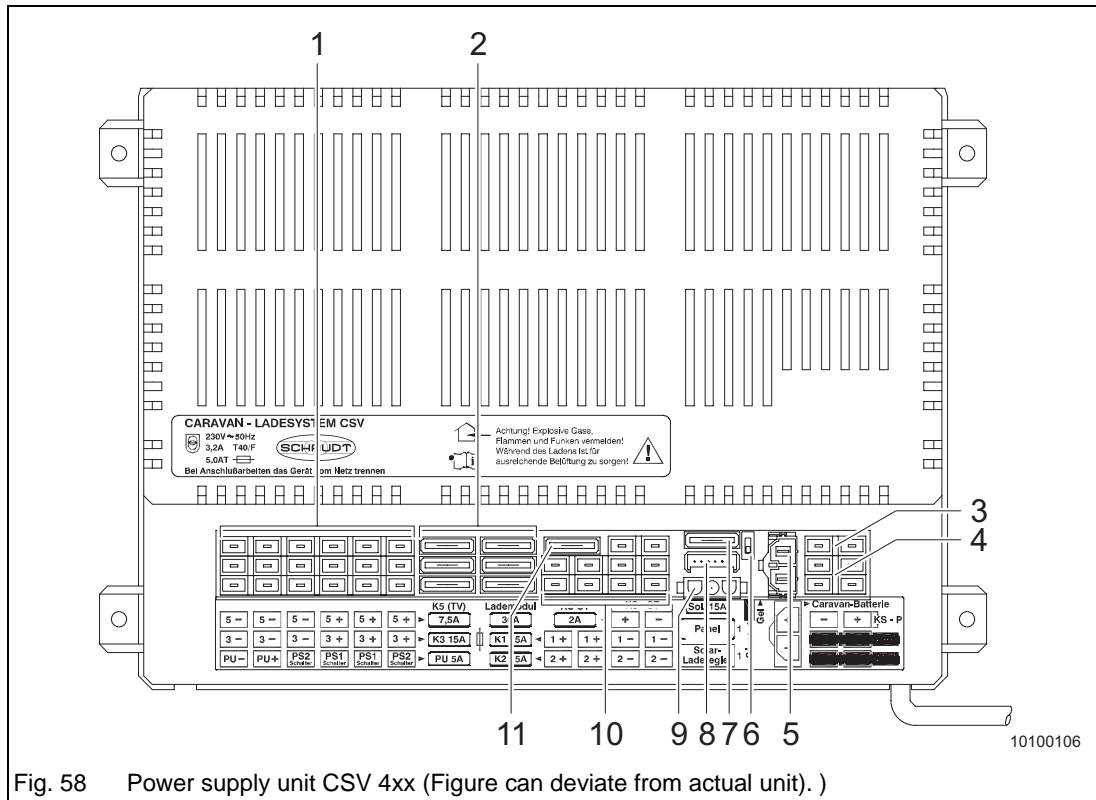

Fig. 58 Power supply unit CSV 4xx (Figure can deviate from actual unit.)
- ▲ Set the battery selector switch (Fig. 58/6, not CSV 400) to the correct position.
- ➔ Check whether the battery selector switch (Fig. 58/6) is in the correct position.
The vehicle flat blade fuses (Fig. 58/2) protect the various power circuits
If the battery selector switch (Fig. 58/6) is set to the wrong position, the living area battery could become damaged.
- ➔ Disconnect the power supply unit from the mains before setting the battery selector switch (Fig. 58/6) to a different position.